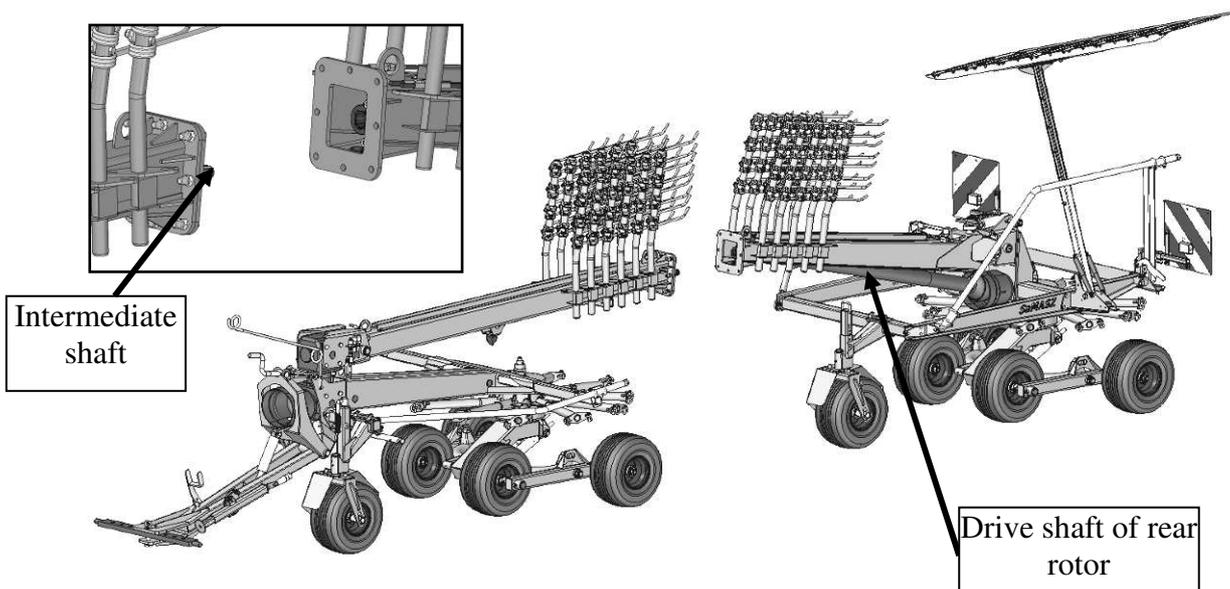

Fig. 24. Dismounting the rake to facilitate its transportation on a large truck
- ❑ disconnect drive shaft from the rear rotor and intermediate shaft located in the middle section of the linkage (**Fig. 24**),